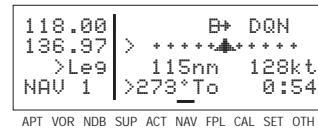

Figure 4-138
4. Press **[ENT]** to approve the Direct To. The NAV 1 page will be displayed (figure 4-138) reflecting the new active waypoint.